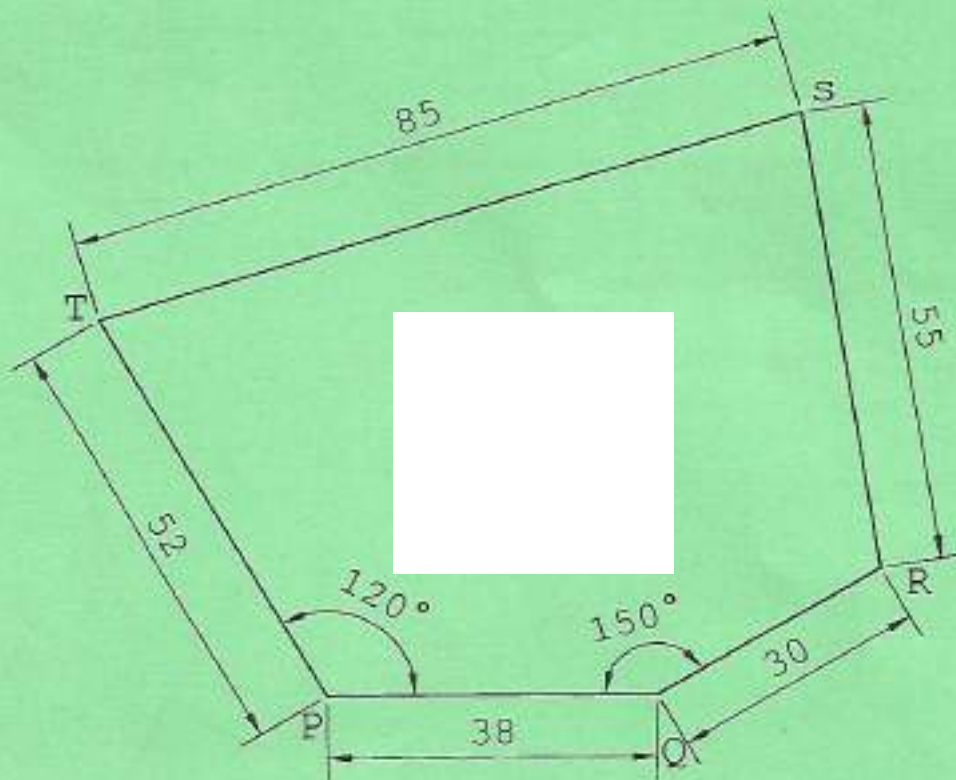

Fig 2.
3. (a) Copy the template shown in figure 2 and enlarge it to a scale of $\frac{8}{5}$ using P as the centre of similitude. (8 marks)